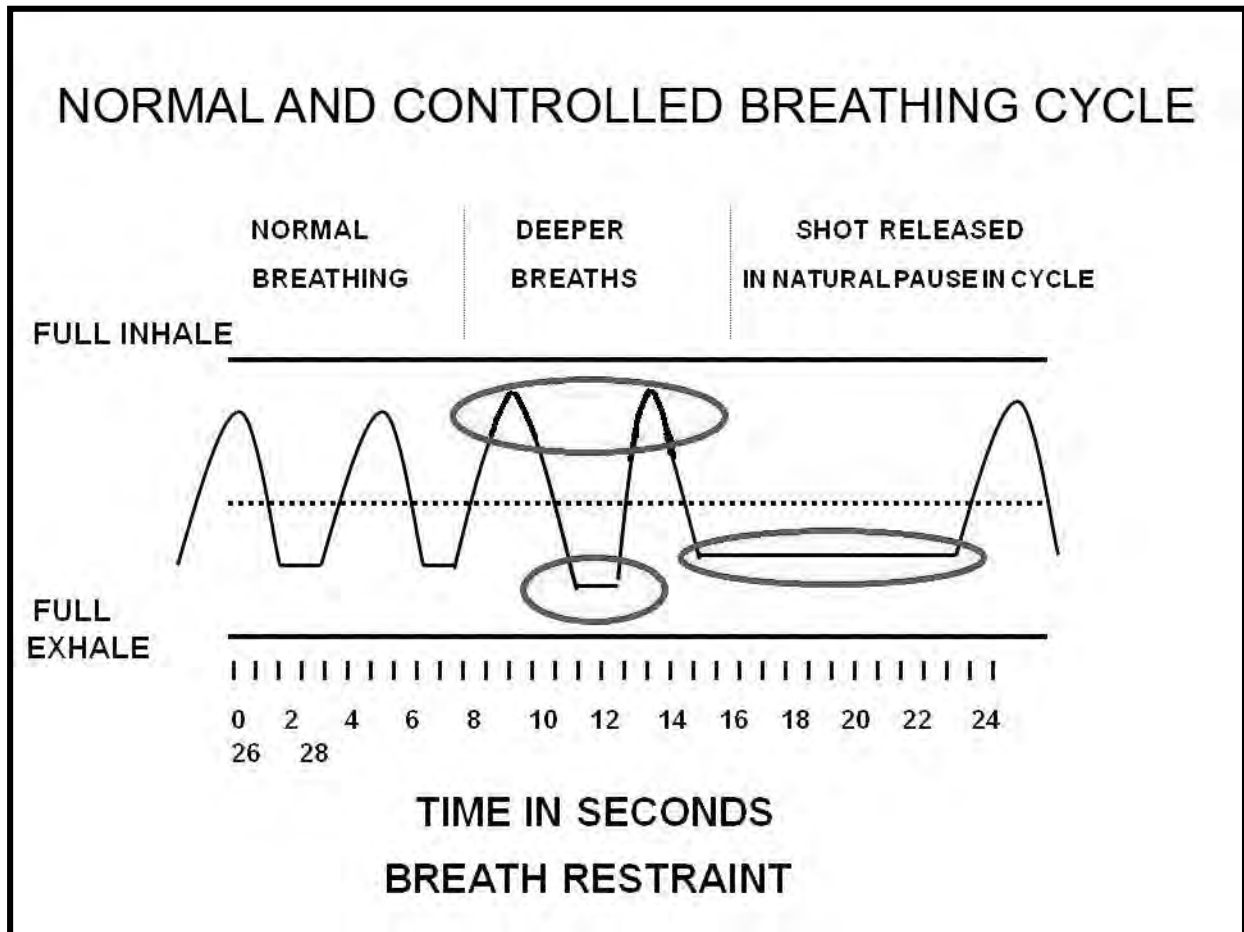

Figure 77. Normal and Controlled Breathing Cycle
- c. Figure 77 has been in circulation for over forty years. Unfortunately, some people will sometimes misinterpret it and wrongfully revert to holding their breath.